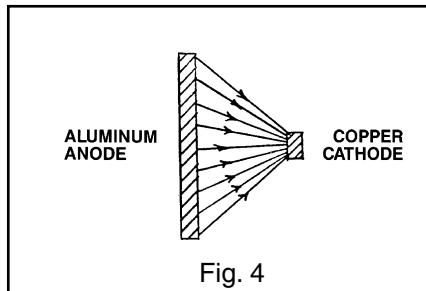

Fig. 4
**Massive Anode Principle:** By making the aluminum connector massive in comparison to the copper conductor, when the copper conductor emerges from the connector, the electrolytic current density over the exposed face of the aluminum connector is greatly reduced. This is schematically represented in Figure 4. Since the rate of corrosion is directly related to the current density on the surface of the anodic material, the relatively large face of the aluminum connector will suffer only minor attack.